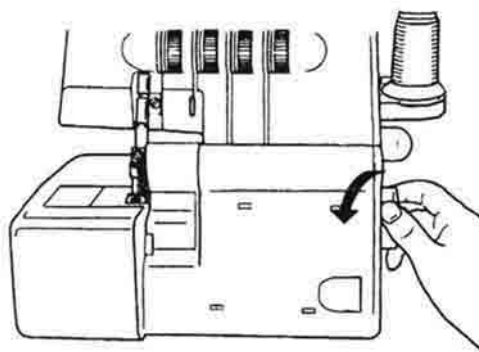

Fig. 9b
1. Turn the handwheel **⚙** towards yourself until the needles are in the highest position (Fig. 9b)
Always turn the handwheel **⚙** only towards yourself (Fig. 9b).